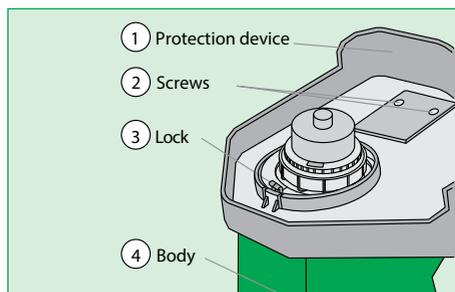
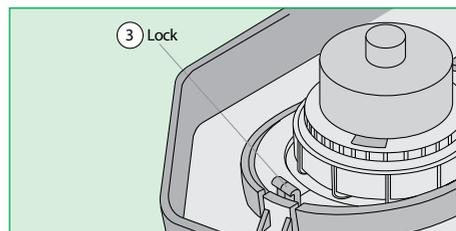

Fig. 1
Fig. 2
- ✓ The equipment is already assembled when delivered with the exception of the protection device. It is conditioned together with the equipment in the same package. To assemble it, turn the equipment upwards (Fig. 1)
- ✓ Place the protection device as per drawing, and fit it in lock (3) (Fig. 2). Press it to the body (4), put screws (2) in position and tighten them (Fig. 1).